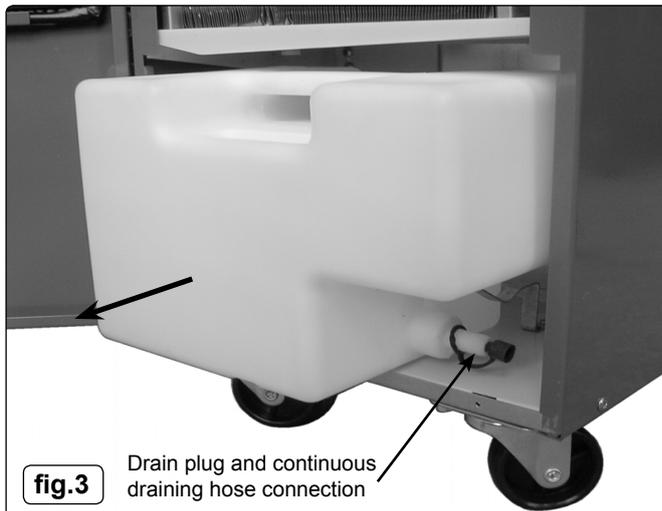

fig.3
4.3.2. Open the door and remove water collection tank from the dehumidifier by pulling it gently outwards by holding the sides of the tank (fig.3).
4.4.3. Remove the plug from the bottom right hand side of the tank (fig.3) and attach a suitable length hose.